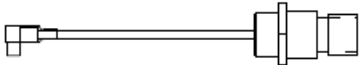

Figure 5: User-Supplied MMCX to TNC Cable Example
- An antenna cable with a male MCX (OEMV-1) or MMCX (OEMV-2 and OEMV-3) connector at the receiver end, see *Figure 5* for an example.